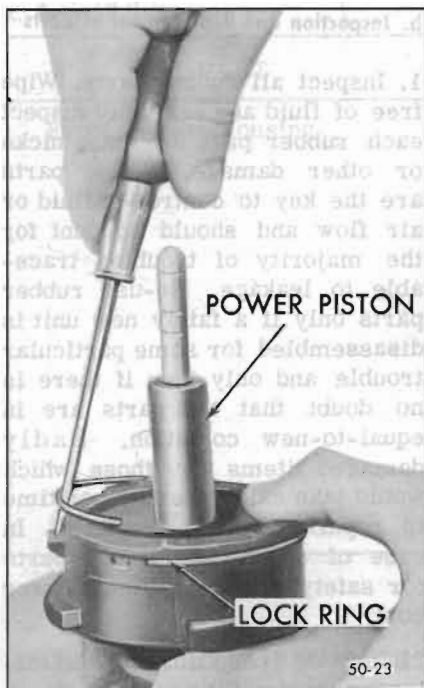

Figure 50-60—Removing Lock Ring from Power Piston
3. Remove lock ring from power piston by prying one of end out from under large divided locking lug and then proceed to pull ring from under other two locking lugs on power piston. See Figure 50-60.